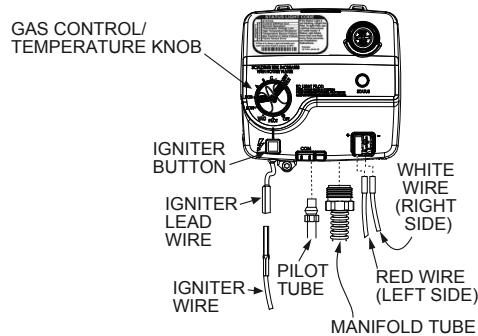

FIGURE 23. GAS CONTROL VALVE REMOVAL
4. Disconnect the igniter wire from the igniter lead wire. Use needle nose pliers to disconnect the red (+) and white (-) thermopile wires. Disconnect the pilot tube (7/16" wrench) and manifold tube (3/4" wrench) at the gas control valve/thermostat. See *Figure 23* (page